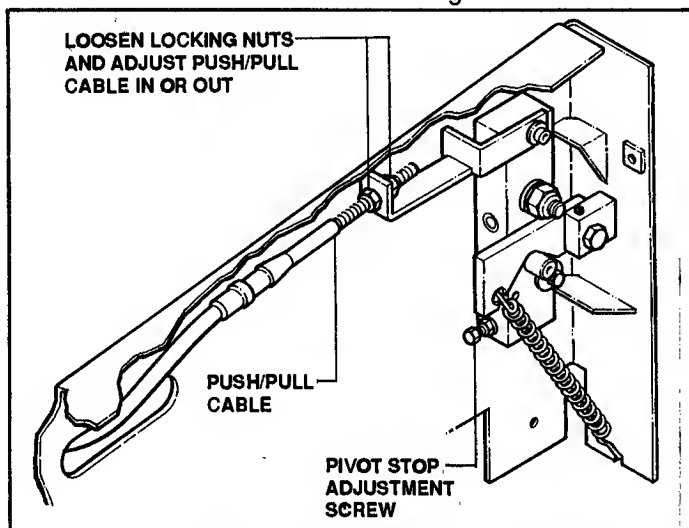

FIGURE 4.14
- Adjust cable in or out as required until wheel ceases to rotate and neutral is achieved. See Figure 4.14.
2. If a pivot stop screw is touching its respective stop, loosen the lock nut and adjust the screw IN until rotary mount block moves to put drive in neutral. Refer to Figure 4.14.